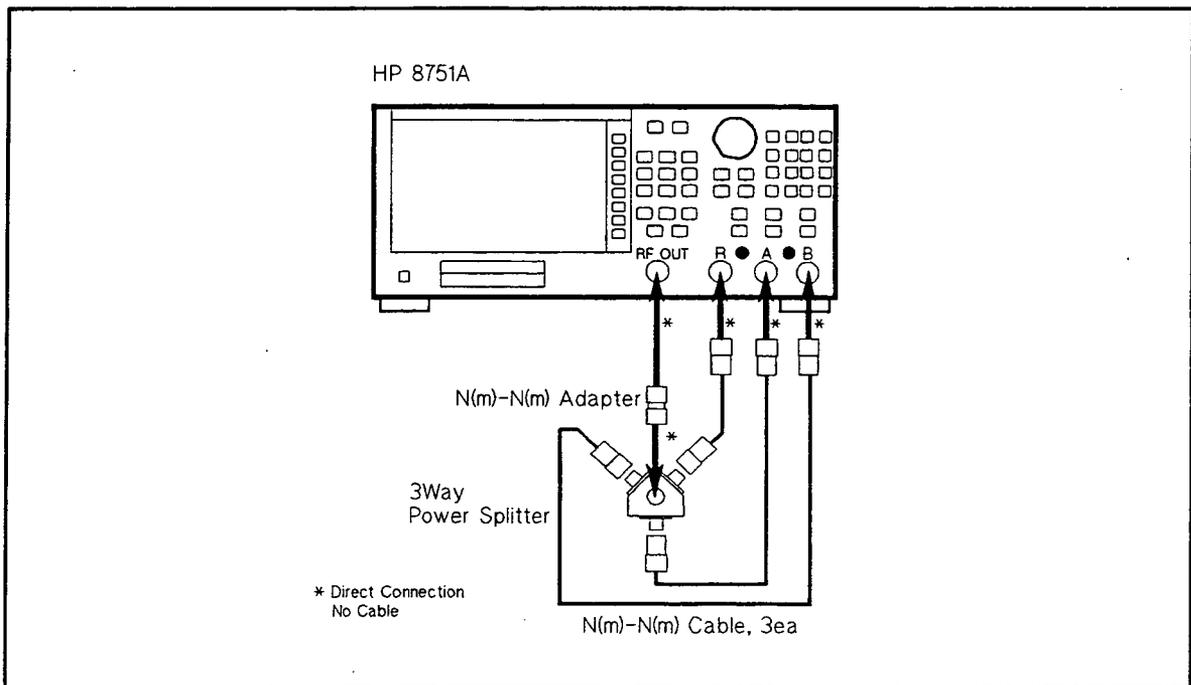

Figure 2-31. Phase Frequency Response Test Setup
1. Connect the equipment as shown in Figure 2-31.